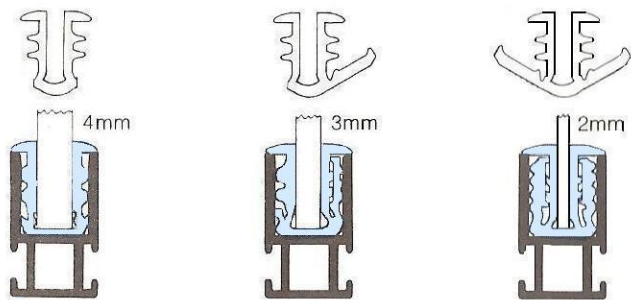

Figure 8
a) If using 4mm glazing, remove both wings from each length of Section F (Figure 8).
b) If using 3mm gasket remove one wing, and leave the remaining wing on the gasket (Figure 8). Ensure when fitting that the wings always face the same way.
c) If using 2mm glazing use the gasket as supplied (Figure 8).